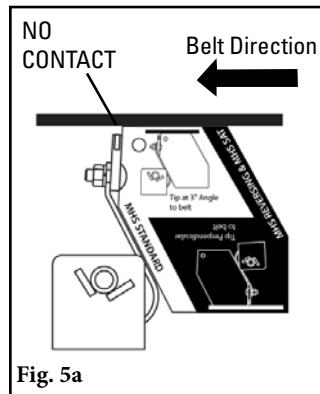

Fig. 5a
5. **Set the blade angle.** Center the pole/blades on the belt. Rotate the pole until the tips align with the white "MHS Standard" side of the tip setup gauge provided (Fig. 5a). Tighten the two locking bolts on each torsion pole mount to lock the pole in place (Fig. 5b). There should be no blade-to-belt contact while locking the pole in the correct position. If contact occurs, double check the dimension from Step 1.